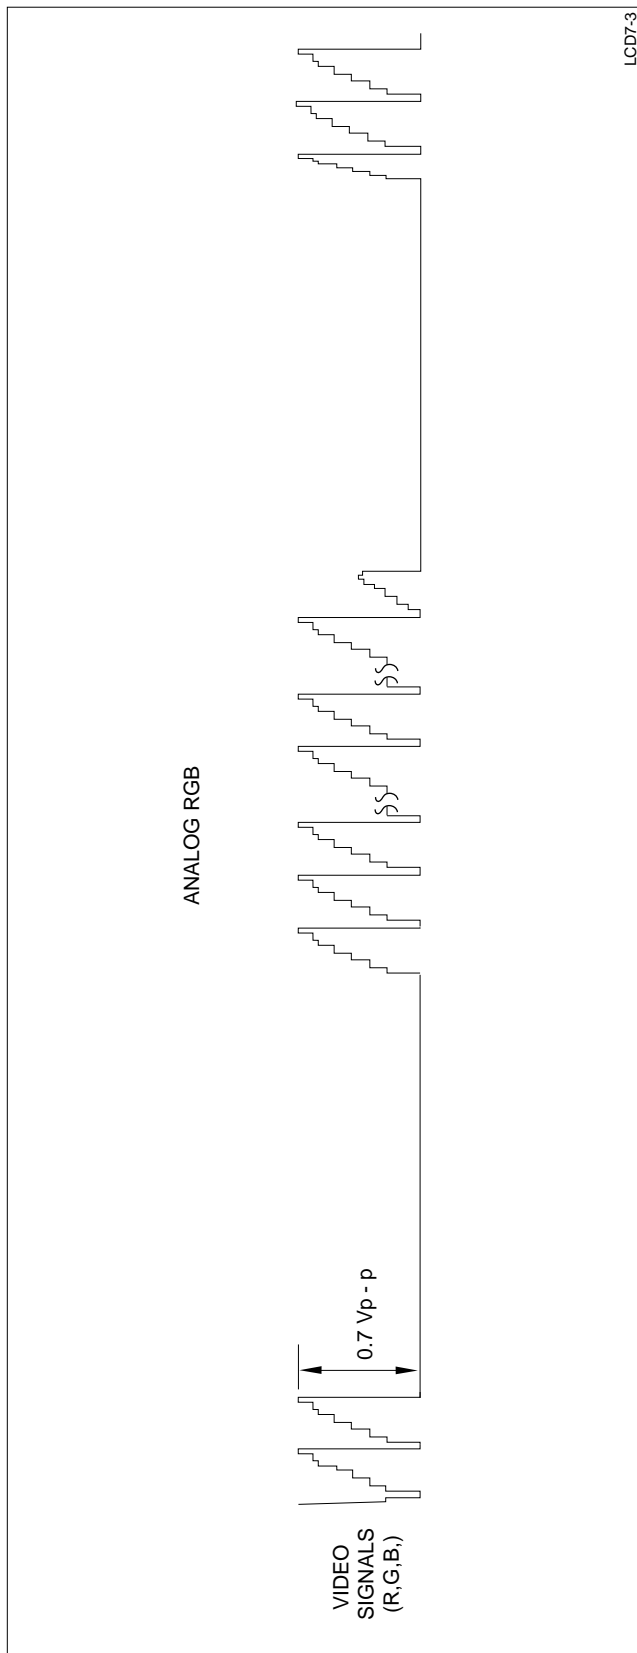

Fig. 3. Analog RGB (non-composite)
- Analog RGB (non-composite)- Separate red, green and blue video signals used in conjunction with composite sync or separate horizontal and vertical sync (Figure 3).